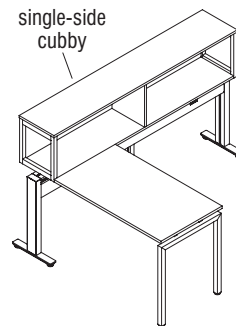

Figure 40
- Standard rail assembly can accommodate single-sided or shared cubbies only (Figures 40 & 41). Dual-sided cubbies are not allowed.